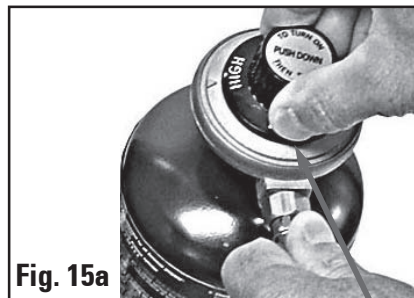

Fig. 15a
- 2) Push in and turn the regulator knob counterclockwise from the OFF/ LOCK position to HIGH. (FIG 15A)